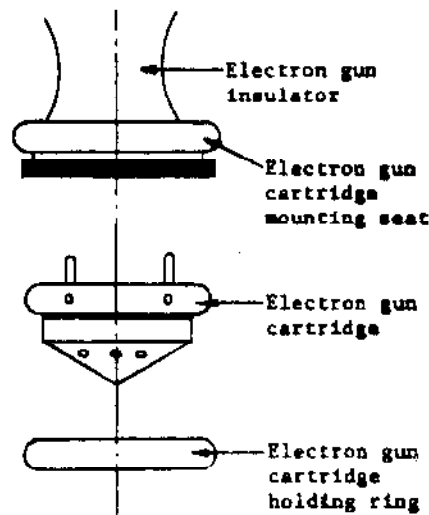

FIG. 1
4. Rotate the electron gun cartridge retaining ring counterclockwise to dismount. Then, pull out the cartridge from its base (Refer to Figure 1).